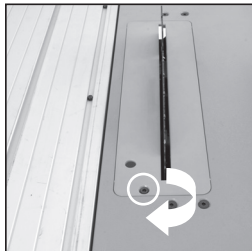

FIG. 2
- Remove the table insert by rotating its fixing screw (Fig 2) approx 1/4 turn. Lift & slide the table insert from the table.